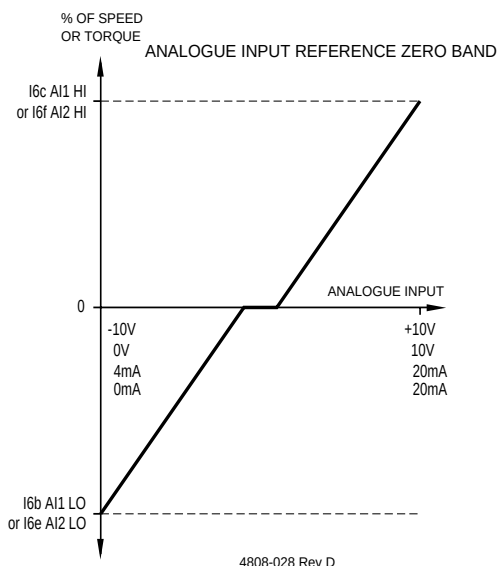

Figure 9.8: Analogue Input Reference Zero Band
- SETTING UP** Refer to figure 9.8.